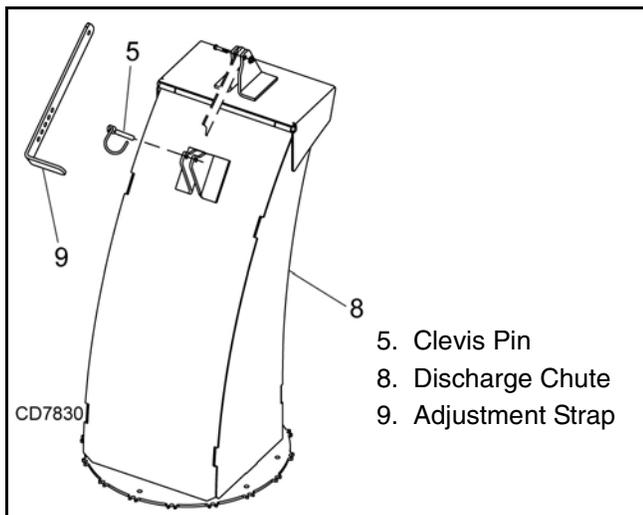

Figure 8. Discharge Chute Position
■ The height of snow discharge is controlled by position of chute deflector on discharge chute (8), Figure 8. Remove clevis pin (5), and slide adjustment strap (9) to selected discharge height. Reinstall clevis pin (5).